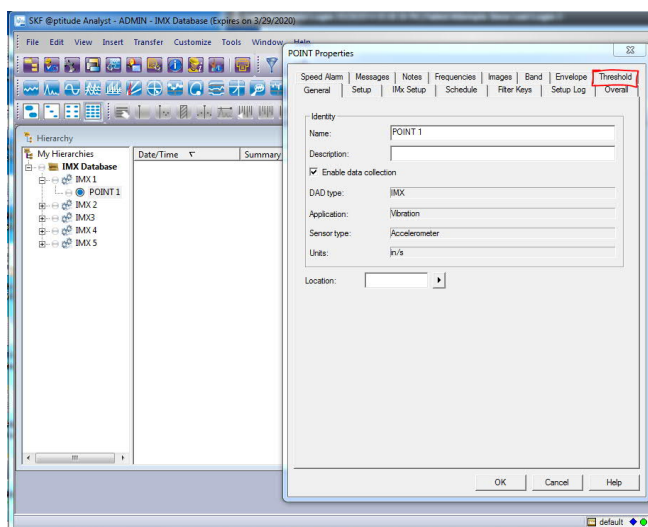

Figure 6. Threshold tab
7. Choose the POINT desired to have the overall value available for the ModBus. Open its POINT Properties and click on the Threshold tab. [Figure 6]